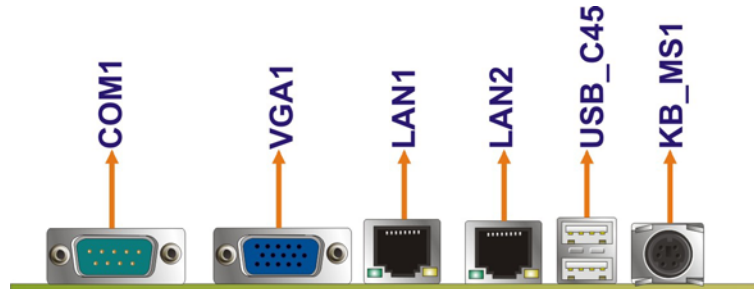

Figure 4-24: NANO-945GSE External Peripheral Interface Connector
Figure 4-24 shows the NANO-945GSE external peripheral interface connector (EPIC) panel. The NANO-945GSE EPIC panel consists of the following:
- CN Location: See **Figure 4-24** (labeled 1)
CN Location: See Figure 4-24
- CN Location:** See Figure 4-24 (see 2)
CN Location:	See Figure 4-24